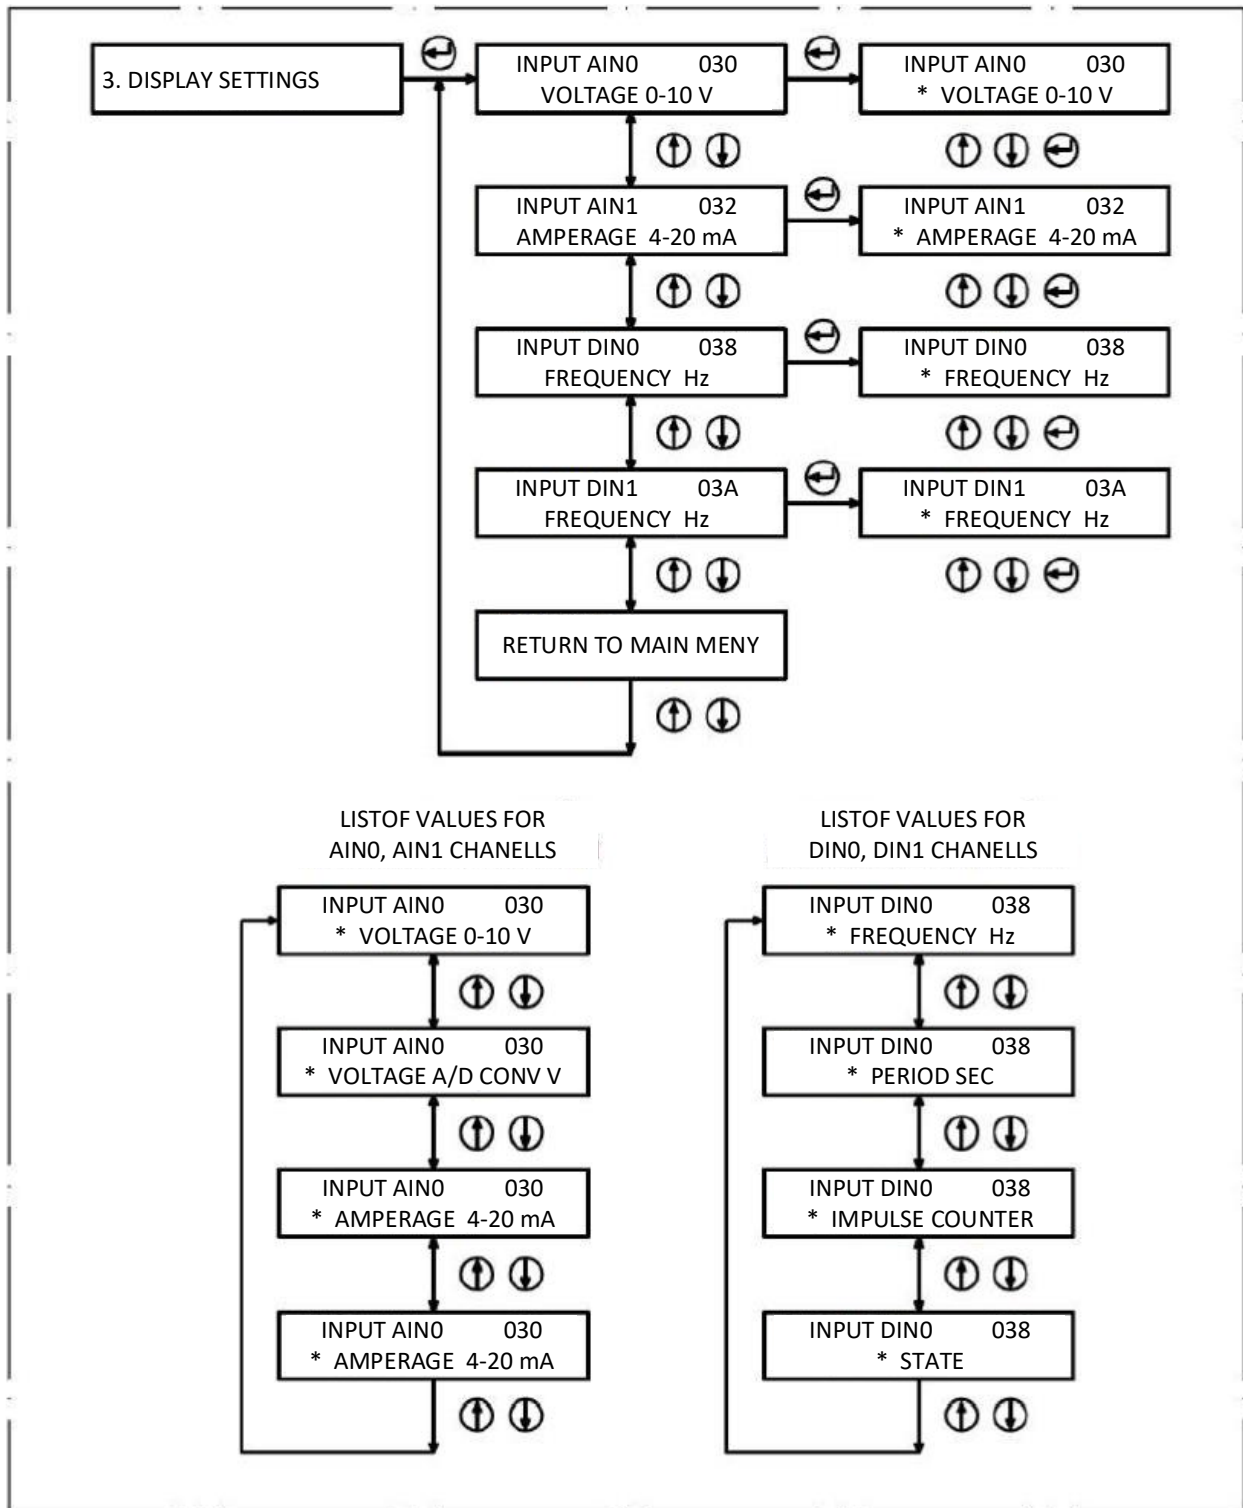

Fig.8 Reflection setting
4.5. Parameters reflection in menu «Reflection setting» defines what signal type is used at input of measuring channelso. One have to define signals for analogue and discrete inputs. Value variants are shown in fig 8.